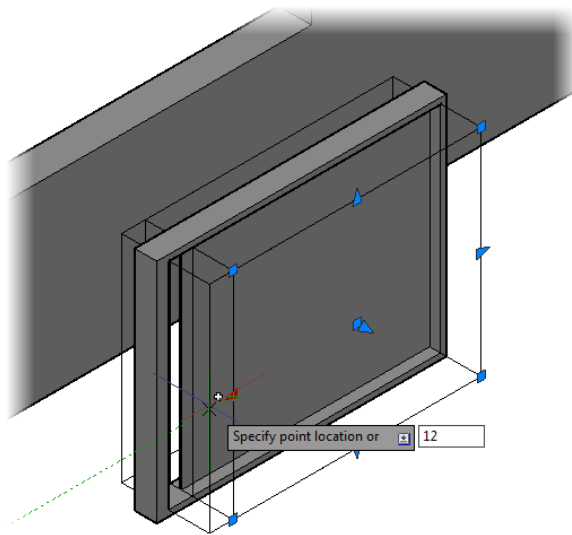

FIGURE 16.38: Adjusting the size of the box from the Subtract Boolean operation
9. Enter **12.↓** (**305.↓**), as shown in Figure 16.38.